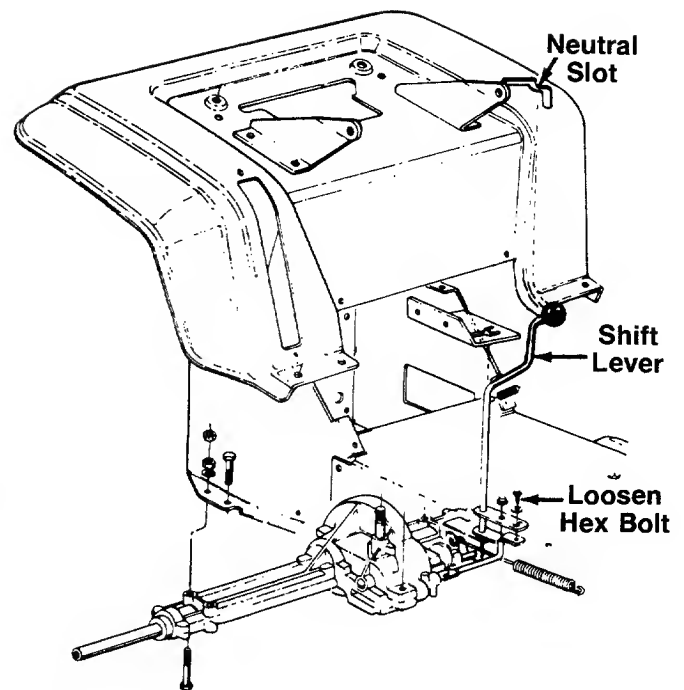

FIGURE 15.
2. Loosen the bolt which secures the shift lever assembly to the shift lever adjusting link. See figure 15.
3. Place the shift lever in the neutral slot. See figure 15.